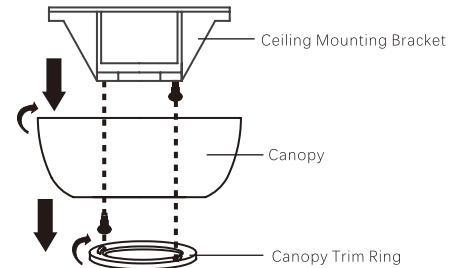

Fig. 5
**Step 1.** Remove the canopy trim ring from the canopy by turning the canopy trim ring counter clockwise. (Fig. 5)
**Step 2.** Remove the ceiling mounting bracket from the canopy by removing and saving one of the two screws. Loosen the remaining screw by a half turn. (Fig. 5)